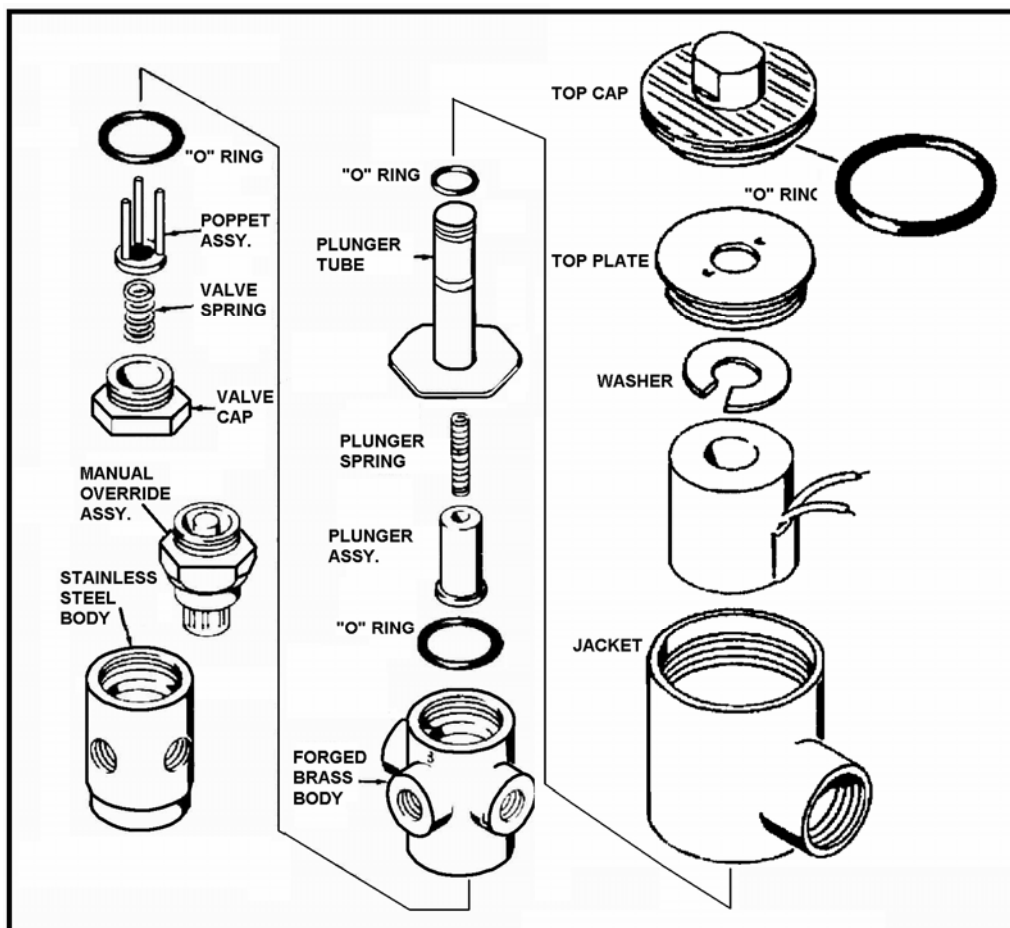

Fig. 3 Exploded View of Typical S33 Explosion Proof Model
### Explosion Proof Model (See Fig. 3)
10. Reassemble in reverse order of disassembly paying careful attention to exploded view provided in Fig. 3.